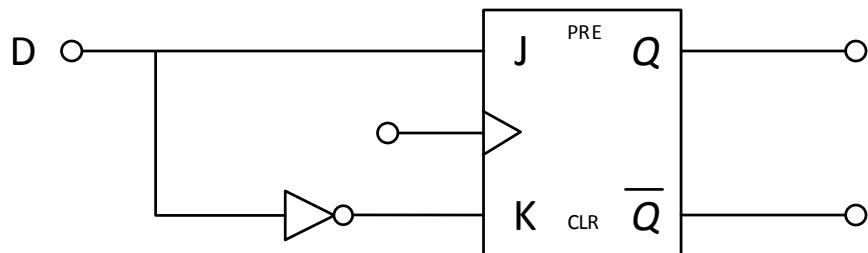

Figure 35
- Using the pin configuration diagram in Figure 35, mount the 74LS112 IC and 7404 IC on a breadboard. Connect the inputs and outputs. Use a toggle switch for the inputs (S, C). Apply VCC and Ground to the proper pins on the IC. Place the S & C inputs to logic ‘0’ initially.